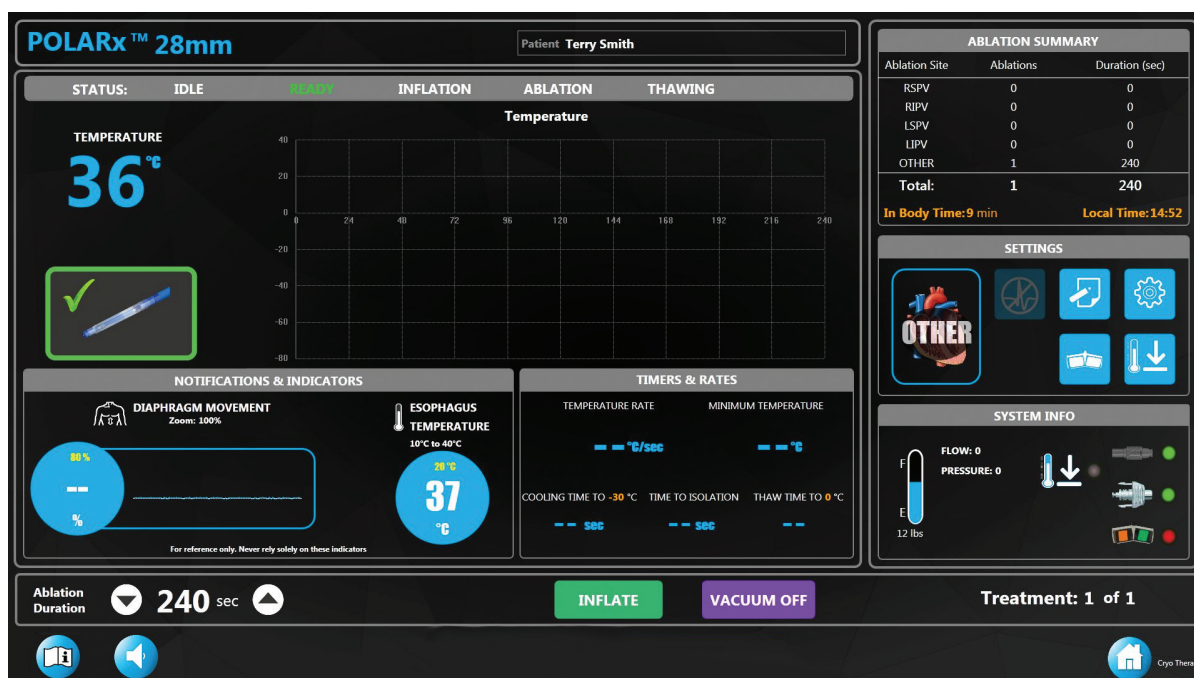

Figure 6. Therapy screen—ready state
3. The system status should indicate READY and the INFLATE button on the Therapy screen should appear (Figure 6). In addition, the START pushbutton on the console front panel should be illuminated green.